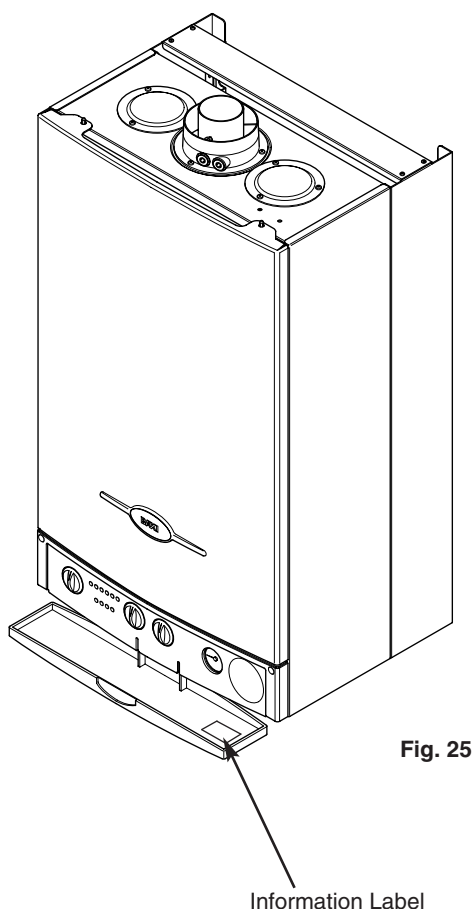

Fig. 25
3. The name, model number and serial number can be found on the information label on the back of the hinged lower door (Fig. 25).